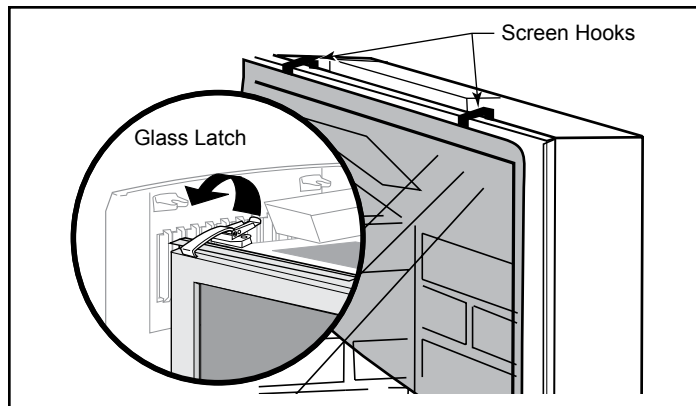

Fig. 28 - Remove the screen or glass panel.
3. Remove the screen by lifting up and away from the unit. Or, if so equipped, remove the glass panel by releasing the two upper retainer latches. Lift the panel up and off of the firebox frame. (Fig. 28)